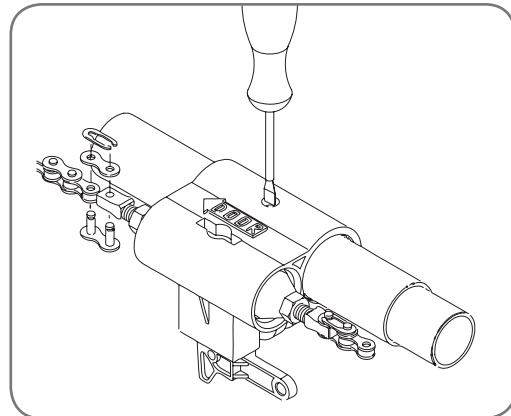

fig 01
- Slide the shuttle assembly onto the long tube with a hole. Match the holes on the tube and the shuttle and hold the two in position with a screwdriver (**Fig. 01**). Position the long tube with affixed shuttle assembly in the intended centre of the finished rail.
- Attach one end of chain to the chain index screw nearest to powerhead using one joint link. (**Fig. 01**).
- Attach chain to the other chain index screw (**Fig. 01**).